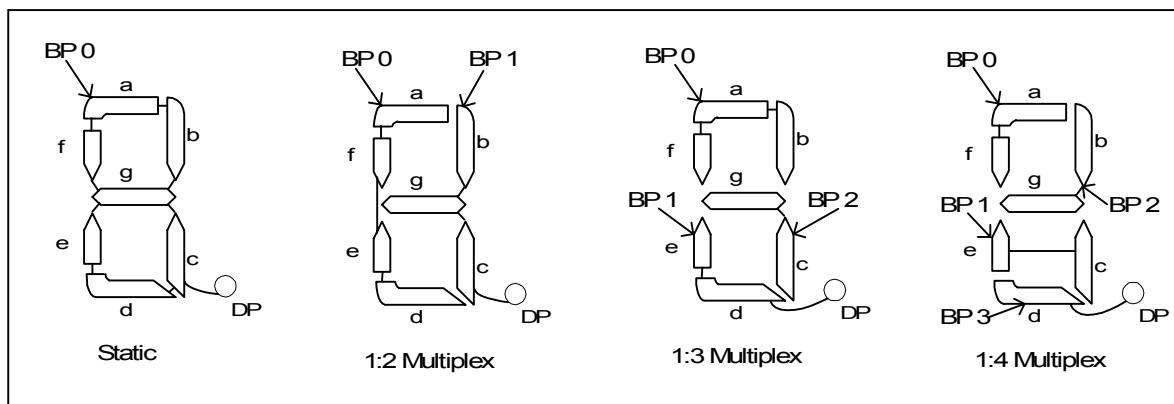

FIGURE 19: BACKPLANE OUTPUTS PER LCD DIGIT
Each byte in the register defines a seven-segment digit and decimal point (DP). Each bit of a register address corresponds to a segment of each digit, as shown in Figure 19.
When the bit is set to **1**, it is on. When it is set to **0**, it is off. Figure 19 also shows the backplane outputs per LCD digit for each multiplex drive ratio.